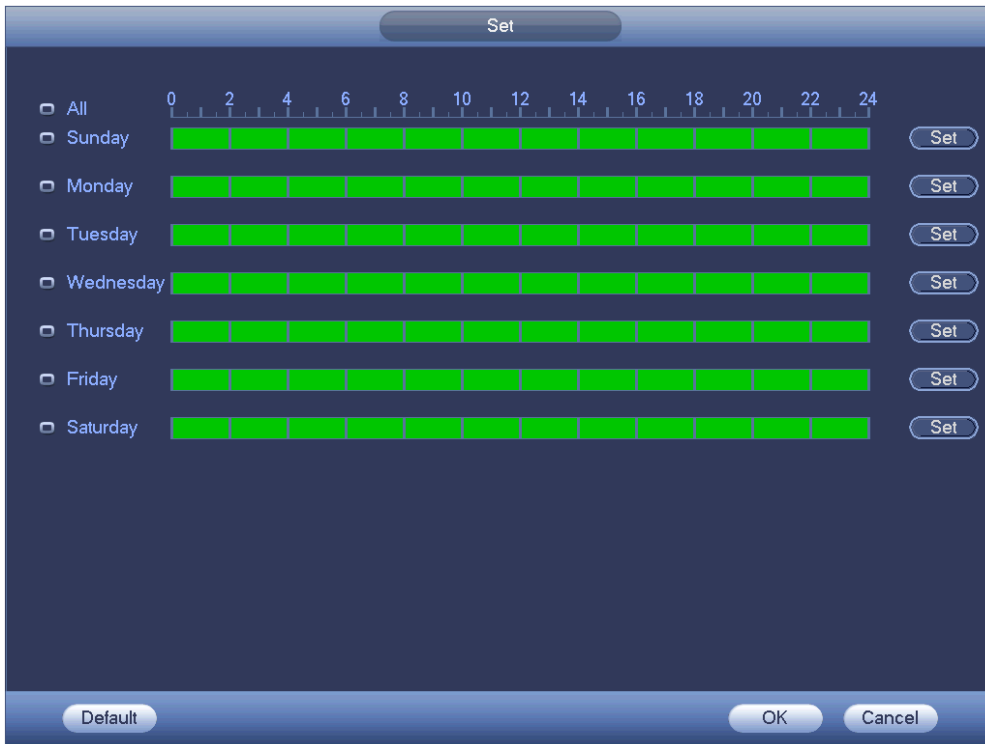

Figure 4-219
Step 4 Click the Set button after the period, you can set valid period to use current account. See Figure 4-219.